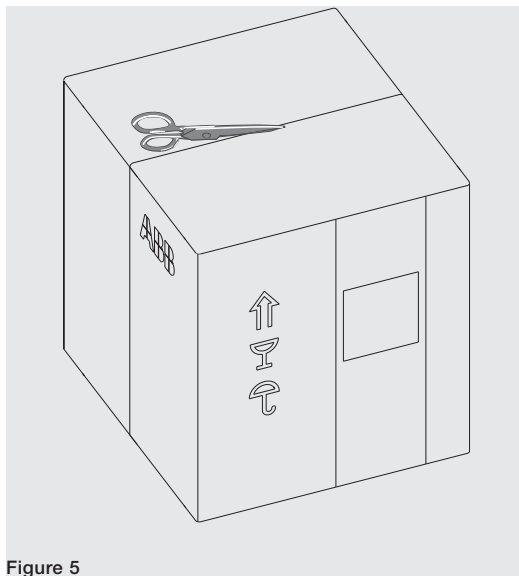
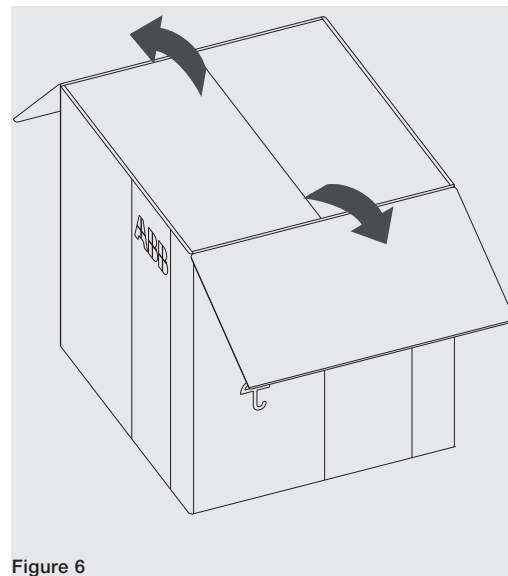

Figure 5
Figure 6
1. Cut the tape that seals the box. See Figure 5 and Figure 6.